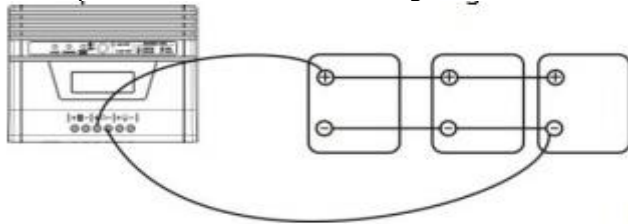

Fig. 6
**2) Multiple batteries in parallel connection (Refer to Fig. 6):** Each battery's voltage must be equal to the Nominal DC Voltage of the unit.